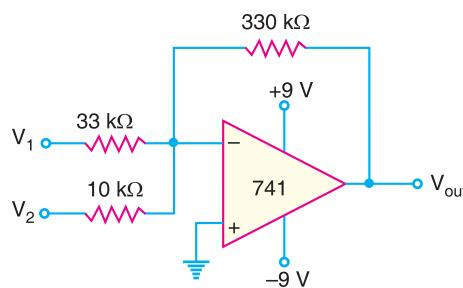

Fig. 25.76
**Example 25.49.** Calculate the output voltage for the circuit of Fig. 25.76. The inputs are  $V_1 = 50 \sin(1000t) \text{ mV}$  and  $V_2 = 10 \sin(3000t) \text{ mV}$ .